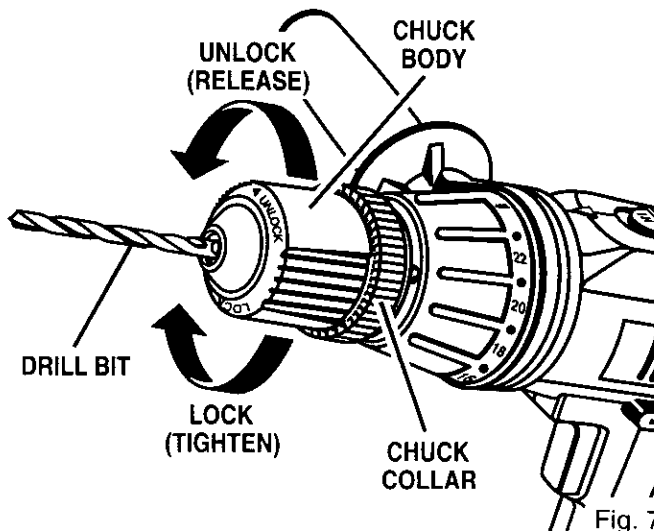

Fig. 7
See Figure 7.
Note: Rotate the chuck body in the direction of the arrow marked **LOCK** to tighten chuck jaws. See Figure 7.
- To loosen: grasp and hold the collar of the chuck with one hand, while rotating chuck body with your other hand. **Note:** Rotate chuck body in the direction of the arrow marked **UNLOCK** to loosen chuck jaws. See Figure 7.